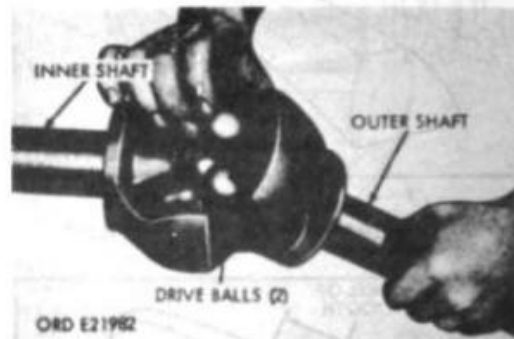
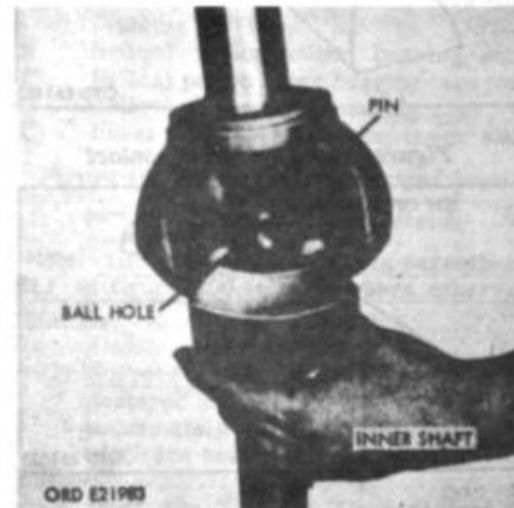

Figure 107. Installation of universal joint drive balls
Figure 108. Installation of yoke pin
- (1) Position outer shaft with intermediate ball against inner shaft (fig. 107) and insert two drive balls.
- (2) Rotate shaft assembly and lower outer shaft as far as possible without lower drive or intermediate balls falling out. Insert remaining two drive balls.
- (3) Stand axle up vertically with inner shaft on bottom (fig. 108) and aline intermediate ball hole with pin.
- (4) Keep outer shaft in the raised position and install groove pin (fig. 108) into outer shaft yoke.